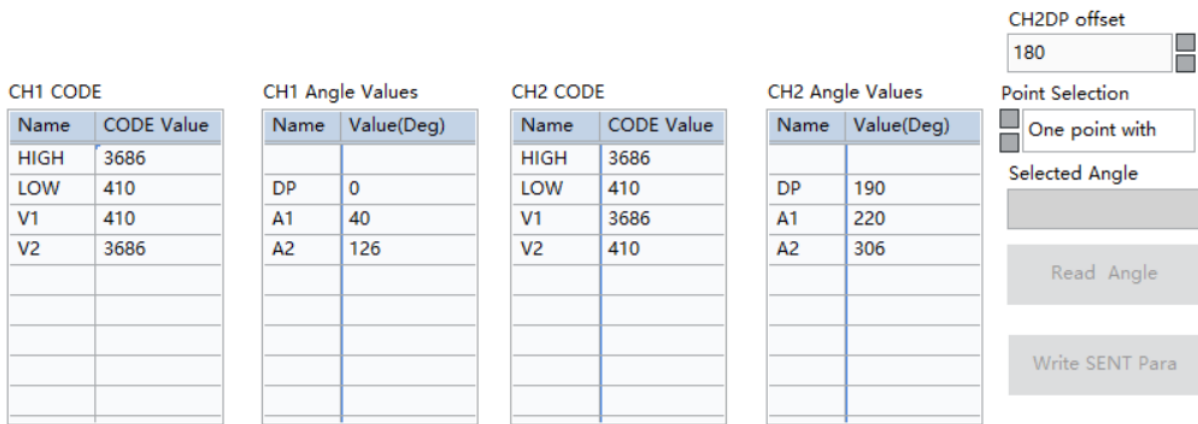

Figure 5.6.11 Read A1/A2 angle value
- Click on the "Angle Value" box corresponding to "A1" in CH1, place the magnet (sensor) angle at the first position that needs to be programmed, stabilize it, and then click the "Read Angle" button to read the current chip angle value, which will be displayed in the angle values "A1" of CH1 and CH2. The current read chip angle is 40 ° for "A1" of CH1, and 220 ° for "A1" of CH2; The same way, the angle value of "A2" for CH1 is 126 °, and the angle value of "A2" for CH2 is 306 ° (Figure 5.6.11).